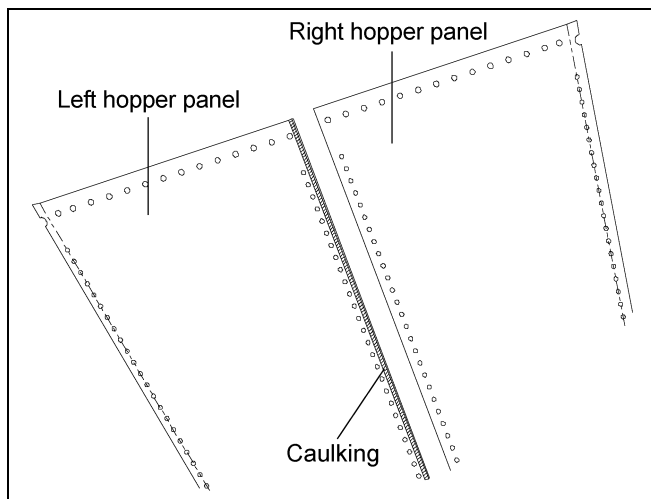
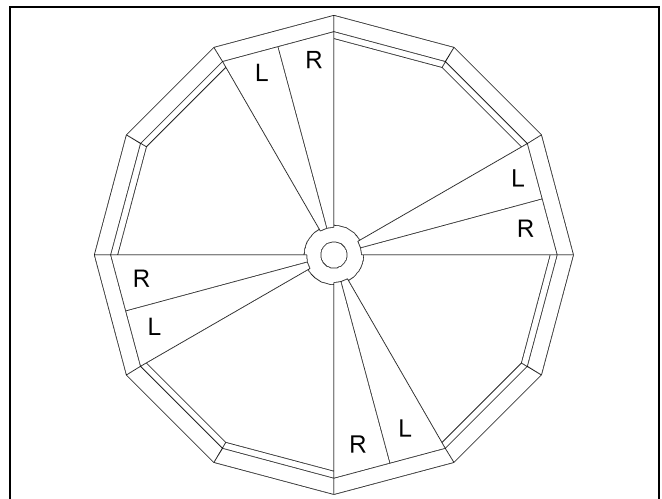
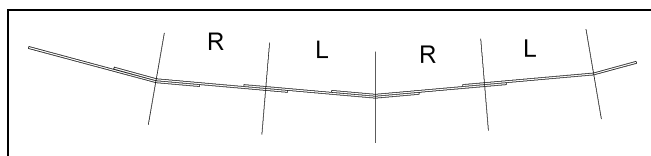

Figure 6C Caulking Detail
Figure 6F Hopper Panel and Discharge Collar Assembly
Figure 6D Lap Detail (Viewed from Inside of Bin)
Begin assembling the hopper bottom by attaching a right and left pair or pairs of hopper panels to the compression angle ring ( $5/8"$  x  $1-1/2"$  hex head bolts) and discharge collar ( $3/8"$  x  $1"$  hex flange head bolts) at four (4) opposing points. (See Figure 6F.) The left and right hopper panels can be assembled ( $3/8"$  x  $1"$  hex flange head bolts) prior to attachment to the compression ring. Caulking is required on the vertical seams of the lapped hopper panels. (See Figure 6C.) Complete assembly by positioning pairs of right and left hopper panels while moving around in one direction and lapping all sheets in the same way. (See Figure 6D.) Do not tighten bolts until all hopper panels are attached to each other, the compression ring and discharge collar. When ready to tighten, start at the bottom of the hopper and tighten all bolts. This will include hopper panels bolts, hopper collar bolts, compression ring bolts, compression splice bolts, column bracing bolts and anchor bolts.